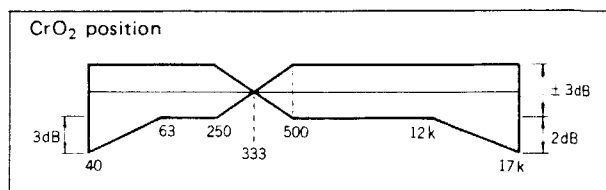

Fig. 12
3. CrO₂ position (Refer to Fig. 12)